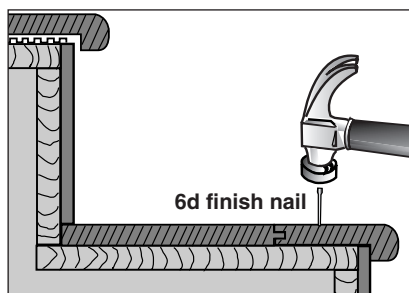

Figure 4
7. Apply a bead of construction adhesive in a 3" (7.6 cm) serpentine pattern to the back of the cut piece of stair nose and affix to the stair. (On wood subfloors, drill appropriate size holes into the installed stair nose and anchor with 6d finish nails (Figure 4). Set nails using a nail punch. Fill holes with a repair stick.)